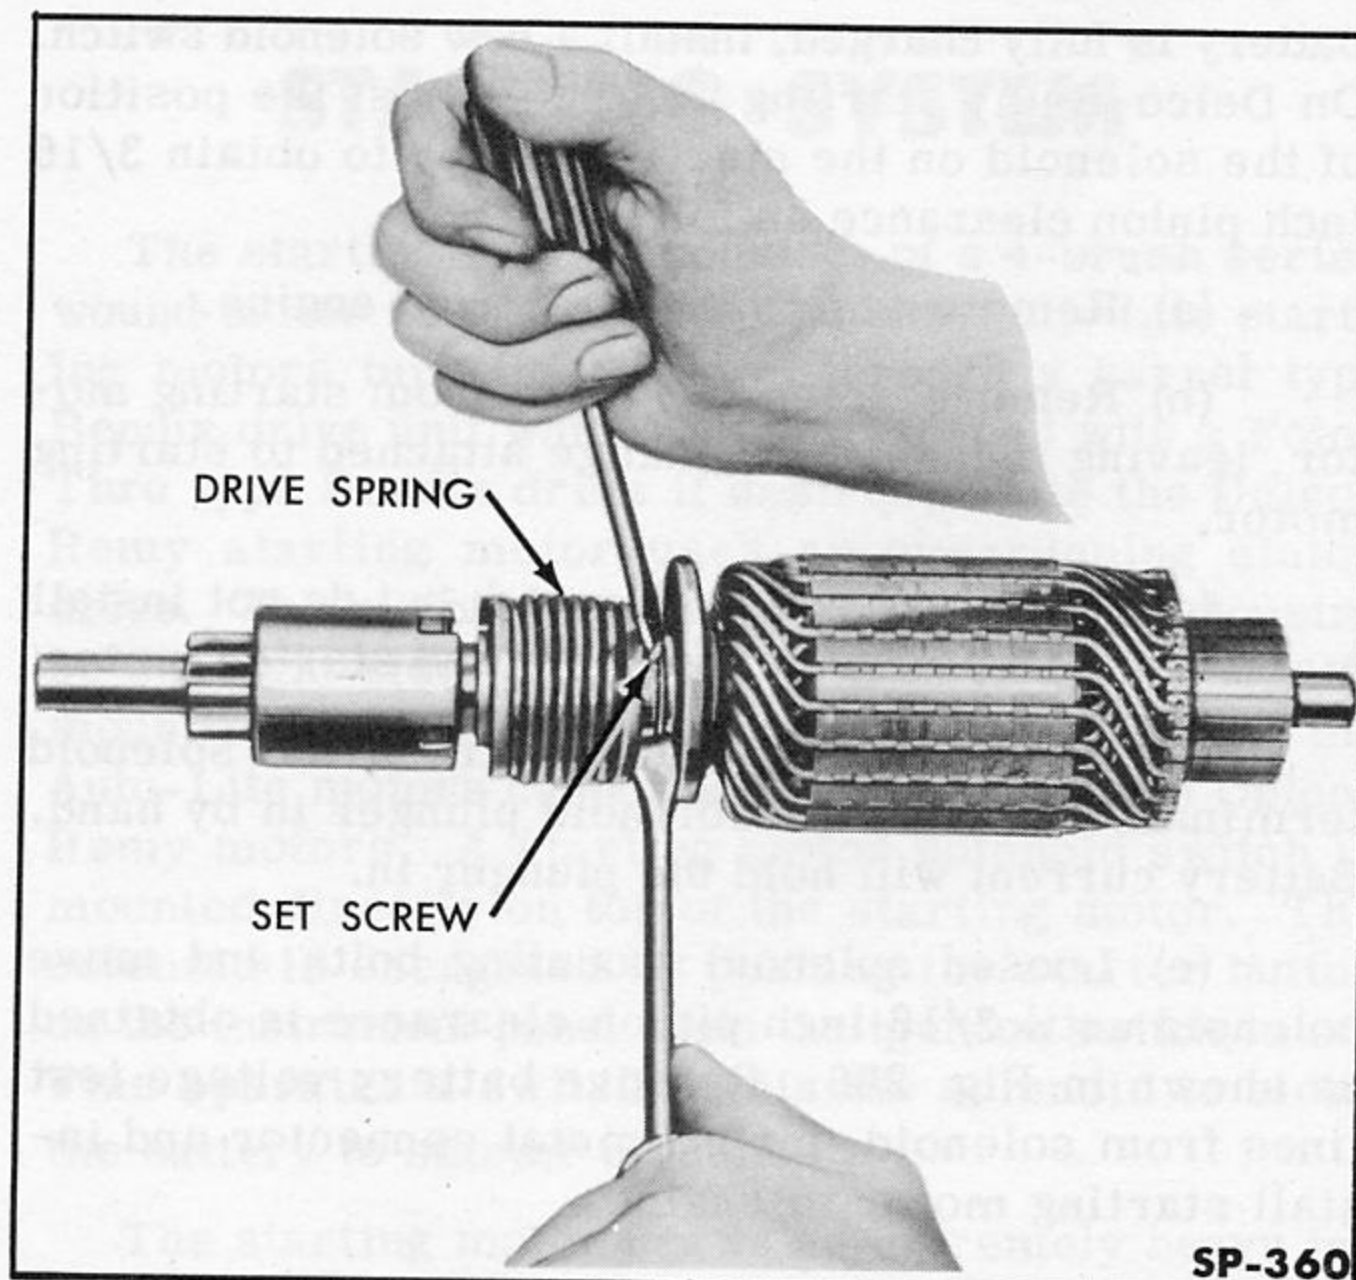

Fig. 287—Removing Bendix Drive Set Screw
4. Slide the overrunning clutch unit off the armature shaft on Delco-Remy motors. The Bendix drive unit on Auto-Lite can be removed from the armature shaft after loosening a set screw that locks the drive screw on the shaft. Pry the drive spring away from the plate as shown in Fig. 287 to expose the set screw.